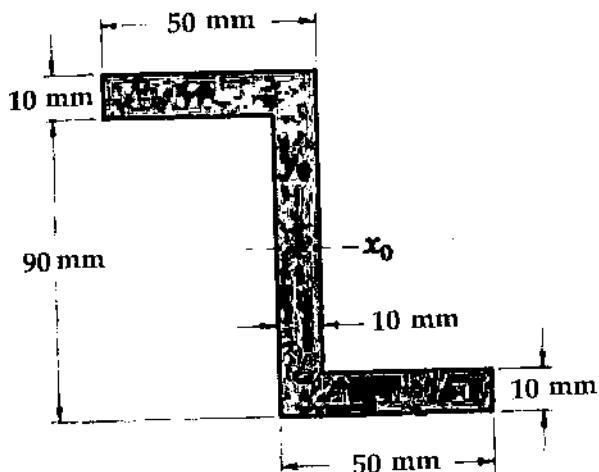

Fig. Q1
1. Determine the moments of inertia and product of inertia of the Z-section about its centroidal  $x_0$ - and  $y_0$ -axes (Fig. Q1).